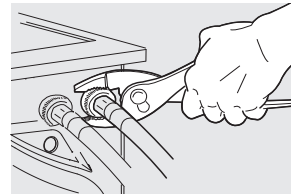

Fig. 4
4. Tighten by hand until snug. Then tighten each supply connection another 2/3 turn with pliers. **Do not cross thread or overtighten these connections.** (Fig. 4).